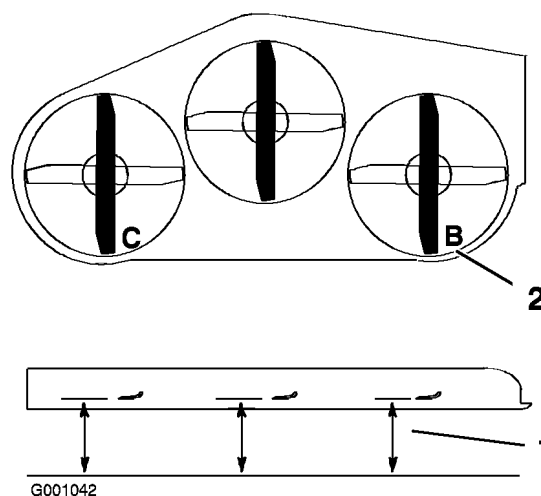

Figure 64
1. Position the **right** blade front-to-rear (Figure 64).
2. Measure the right blade at the **B** location, from a level surface to the cutting edge of the blade tip (Figure 64).
4. Position the left blade front-to-rear (Figure 64).
5. Measure the left blade at the **C** location (Figure 64), from a level surface to the cutting edge of the blade tip .